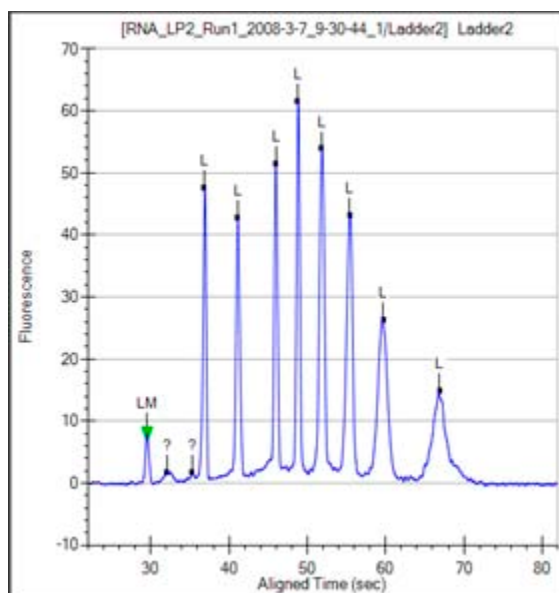

Figure 11. Ladder Graph - RNA
- 4 A sizing ladder (see Figure 11), which is a mixture of RNA fragments of different known sizes, is run first from the ladder vial. The concentrations and sizes of the individual nucleotides present in the ladder are predetermined by the assay and cannot be changed.